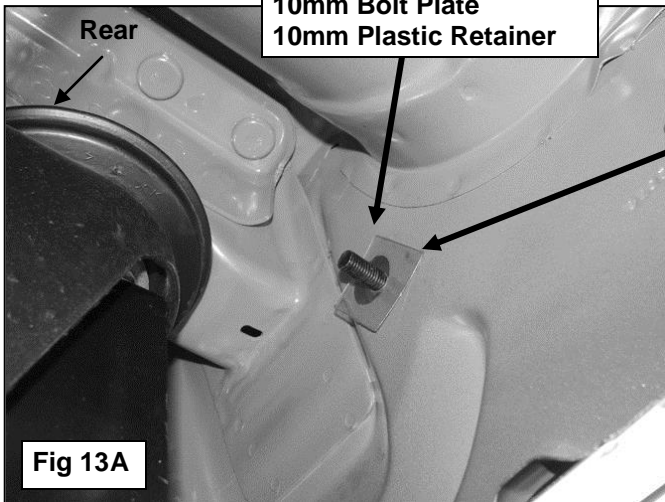

Fig 13A
9. Move to the **Driver Rear** body mount location. **(Figure 11)**. Locate the factory hole in the side of the body panel towards the rear of the vehicle. Remove the rubber plug, **(Figure 12)**. Thread (1) 10mm Plastic Retainer part way onto (1) 10mm Bolt Plate, **(Figures 13A & 13B)**. Insert the Bolt Plate into the hole and thread the Plastic Retainer down until it is tight against
the body panel, **(Figure 13A)**. **IMPORTANT:** The Plastic Retainer is designed to prevent the Bolt Plate from falling into the body cavity and to aid in installing the Support Bracket.